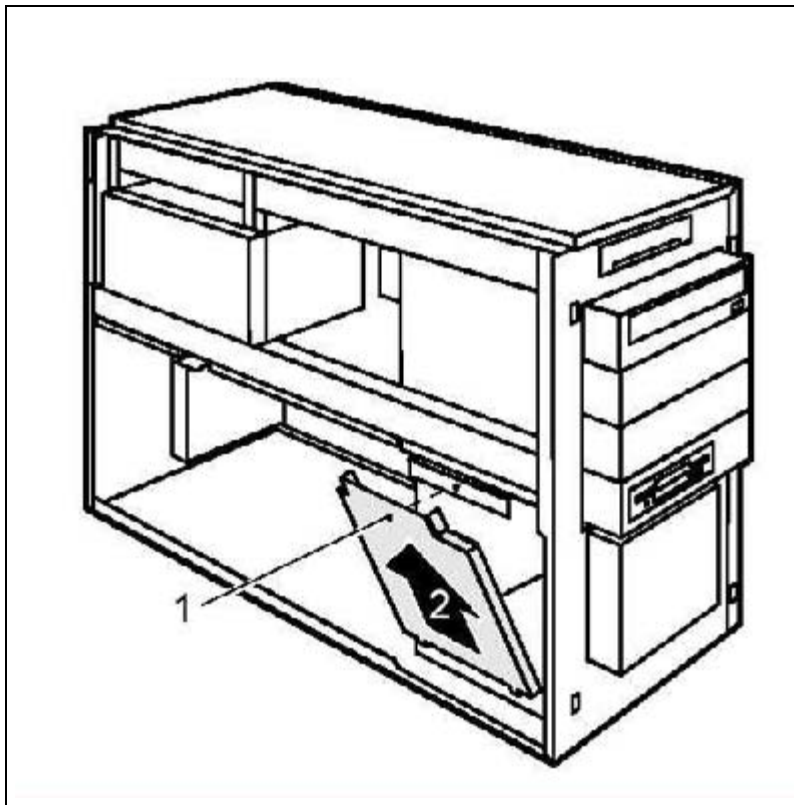

Fig. 57: Replacing a PCI board_1
3. Loosen the screw (1/Fig. 57 / p. 103).
4. Open up the cover (2/Fig. 57 / p. 103).